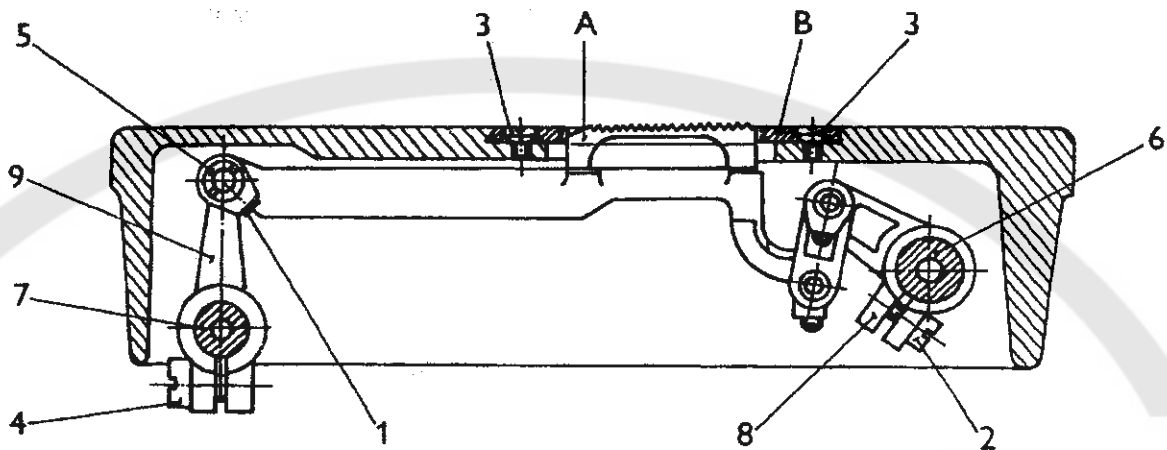

Fig. 8
4. To adjust the feed-dog height above the throat plate (Fig. 8)
6. To adjust the throat plate (Fig. 8)
11. **To adjust the elliptical path of the feed-dog movement (Fig. 8)**